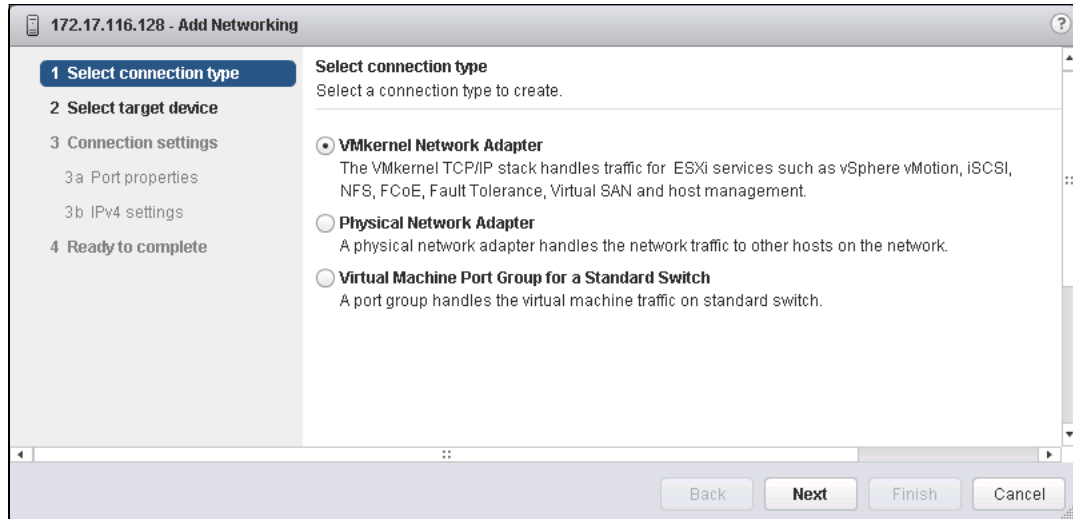

Figure 5-20 VMware: Add Networking wizard
2. Click **Add Networking** to start the Add Networking wizard (see Figure 5-20). Select **VMkernel Network Adapter** and then, click **Next**.